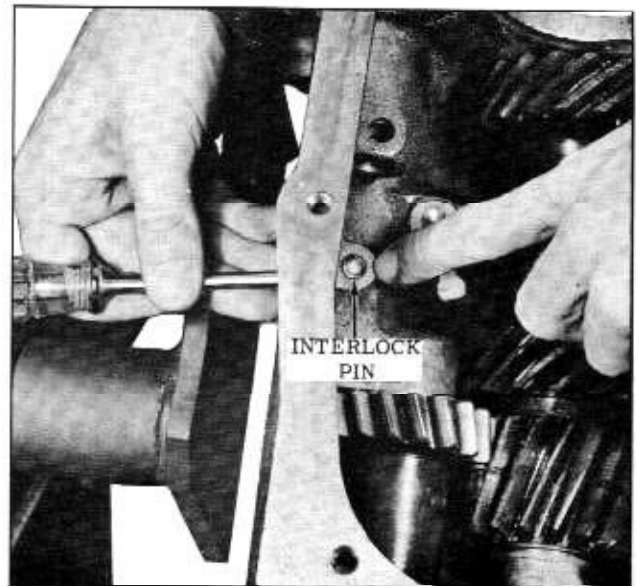

Fig. 11-15 Removing First and Reverse Interlock Pin
18. Remove the first and reverse interlock pin from the case near the selector shaft seal. (Fig. 11-15)